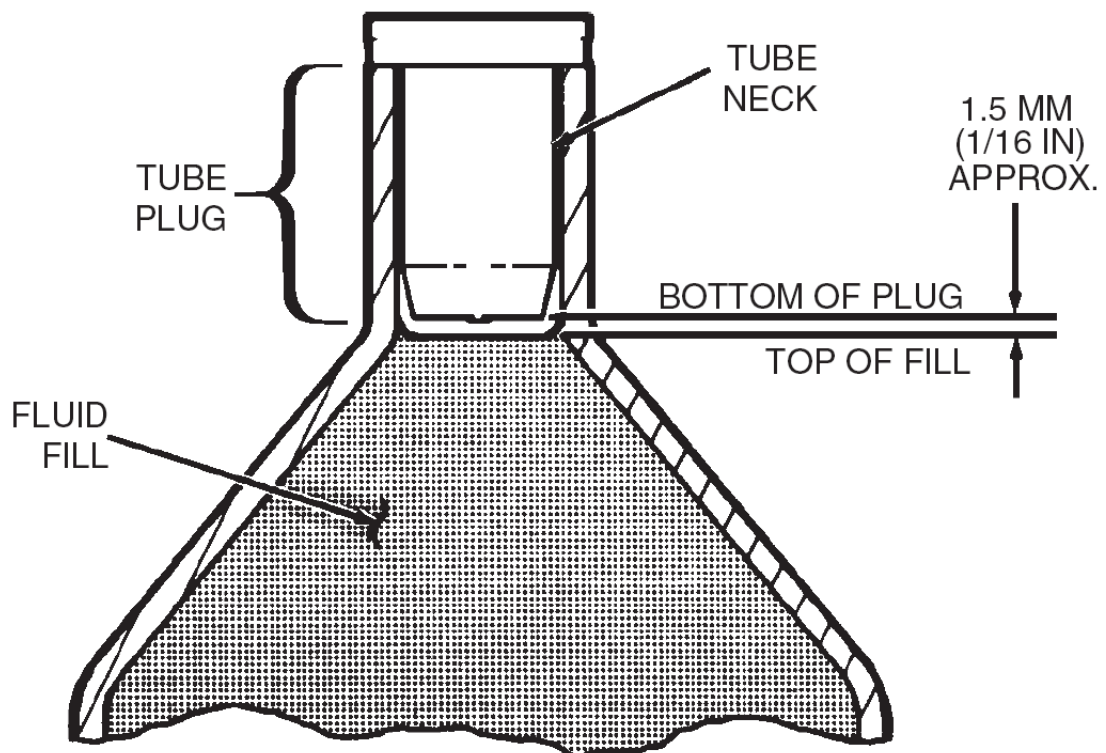

Figure 2-1. Properly Filled Tube
Tubes cannot be run partially filled; fill each tube to the base of the tube neck as shown in figure 2-1 making sure no excess fluid remains in the tube neck. If fluid remains in the neck of the tube when it is crimped, the fluid could be pushed up and out of the tube and become trapped between the tube cap and the outside of the tube neck; then during centrifugation the trapped fluid could escape giving the appearance that the tube had leaked.
Samples and overlay solutions can be layered on top of the gradient by using a transfer pipette. The total liquid volume must fill the tube to the base of the tube neck (see figure 2-1).
1. Insert a tube plug all the way into the tube neck. The top of the fluid level in the tube must be slightly below the bottom of the tube plug (figure 2-1); if fluid comes in contact with the bottom of the tube plug, take the tube plug out and, using a syringe or a pipette, remove the excess fluid and dry the plug.